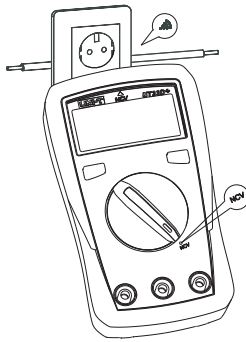

Figure 6
10. NCV measurement (only for UT33D+, see Figure 6)